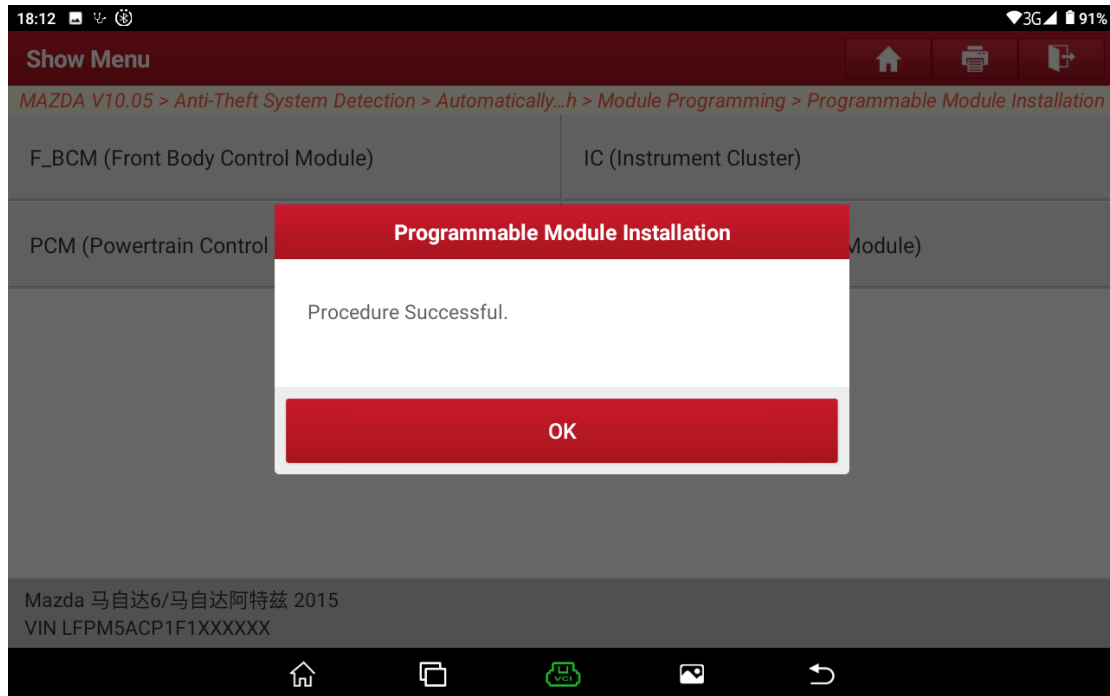

Figure B19
16. Turn the ignition switch to ON and write data. Function execution is successful. See Figure B19.